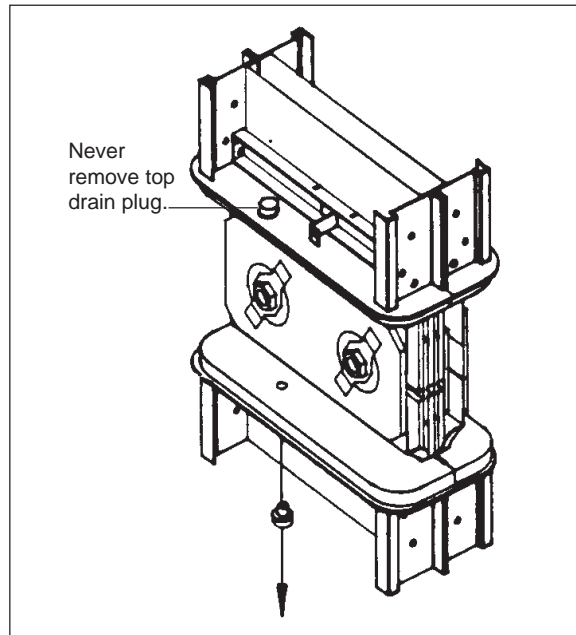

Figure 22
4. Remove the drain plug from the bottom collar at each joint (figure 22).